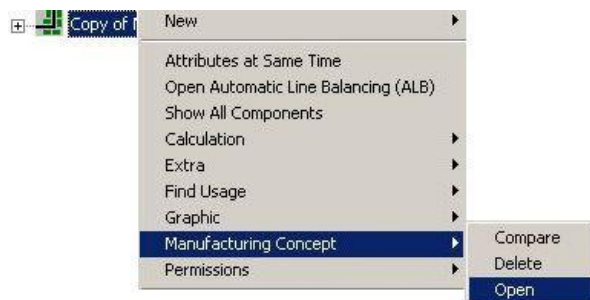

Figure 74: Opening Multiple Usage from the Resource View
- 3) If you are in the Resource View, open Multiple Usage using the **Manufacturing Concept < Open** context function. Please refer to the Figure 74.